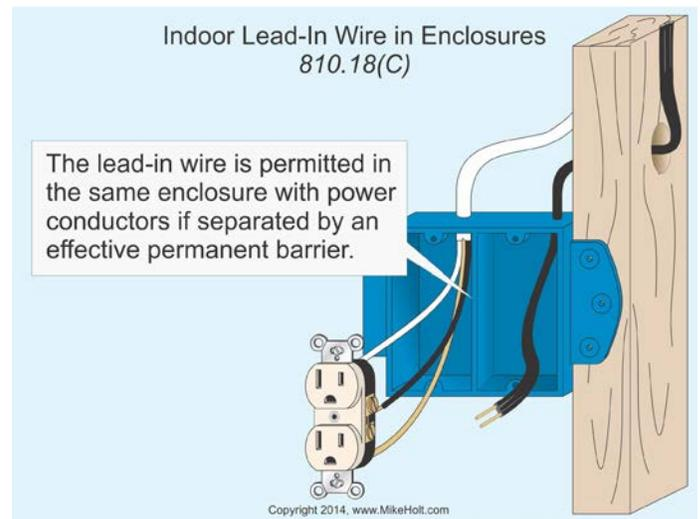

Figure 810-9
**(C) Enclosures.** Indoor antenna lead-in conductors can be in the same enclosure with electric power conductors where separated by an effective, permanently installed barrier. Figure 810-9